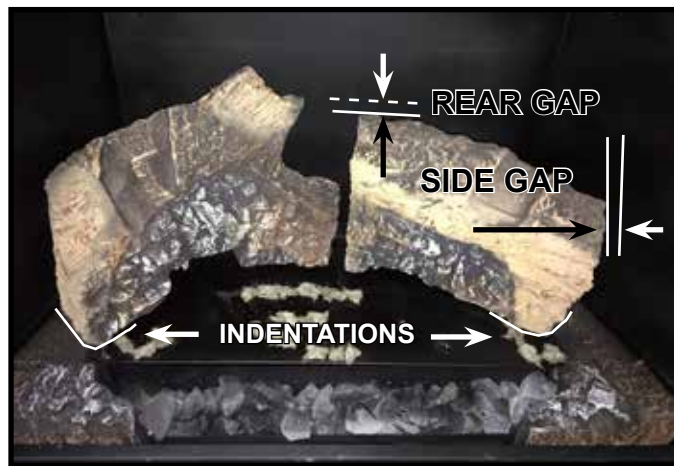

Figure 5. Rear Right Log Installed
Additionally, the rear left log and rear right log are located by indentations in the right and left hearth components. See Figure 5.
1. Remove large rear left log from the packaging and install the log by locating it on the back left log pin(s). The left side of the log will reside within the indentation in the left hearth component. See Figure 5.
2. Remove the large rear right log from packaging and install it by locating it on the back right log pin. On some models, it may be necessary to lift the rear left log slightly to install the rear right log. The right side of the log will reside within the indentation in the right hearth component. See Figure 5.
550X-AU / AUB Models: The rear right log will be positioned to maintain about a 1 in. (25 mm) rear gap between the rear right log and the back wall refractory. The rear right log maintain a 1 in. (25 mm) gap from the right wall. See Figure 5.